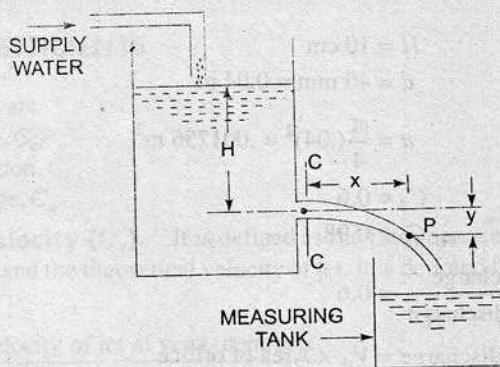

Fig. 7.2 Value of C_d
7.5.1 Determination of C_d . The water is allowed to flow through an orifice fitted to a tank under a constant head, H as shown in Fig. 7.2. The water is collected in a measuring tank for a known time, t . The height of water in the measuring tank is noted down. Then actual discharge through orifice,
7.5.2 Determination of Co-efficient of Velocity (C_v). Let C-C represents the vena-contracta of a jet of water coming out from an orifice under constant head H as shown in Fig. 7.2. Consider a liquid particle which is at vena-contracta at any time and takes the position at P along the jet in time ' t '.